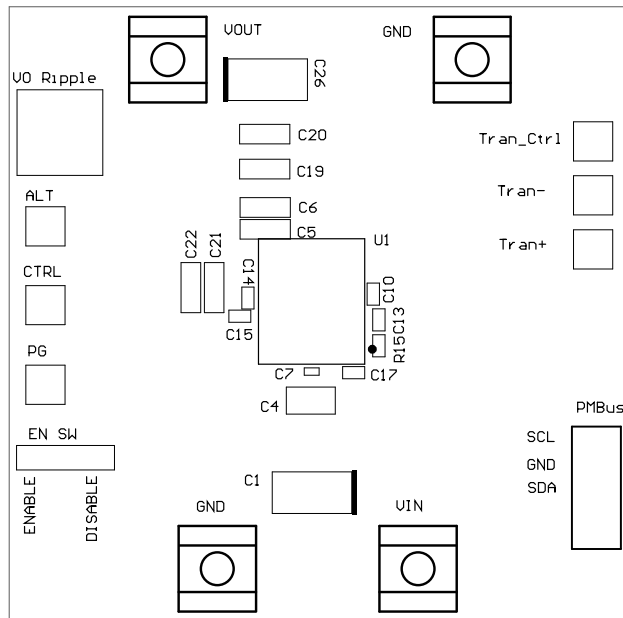

Figure 1-Top Silk Layer
4. Turn the power supply on. The board will automatically start up. Figure 1-Top Silk Layer